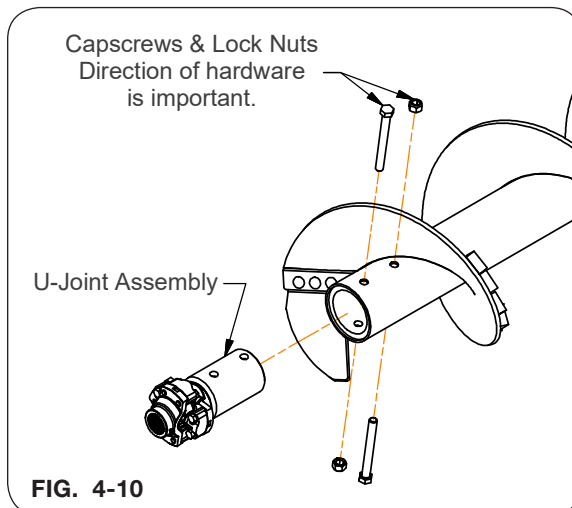

FIG. 4-10
5. Attach the u-joint assembly to the lower auger flighting by placing 3/4"-10UNC x 7 1/2" cap-screws (9008114) and 3/4"-10UNC lock nuts (9802) into the auger from opposite directions as shown in FIG. 4-10.